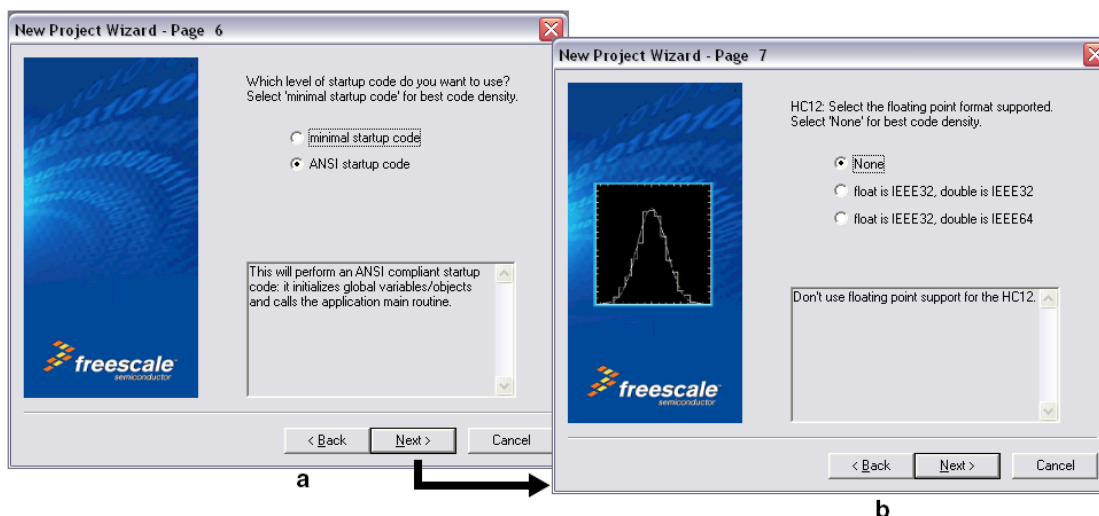

Figure 12. CodeWarrior New Project Wizard Page 6 and Page 7
- l) Click Next — page 6 of the new project wizard will appear (see Figure 12).
- n) Click Next — page 7 of the new project wizard will appear (see Figure 12).